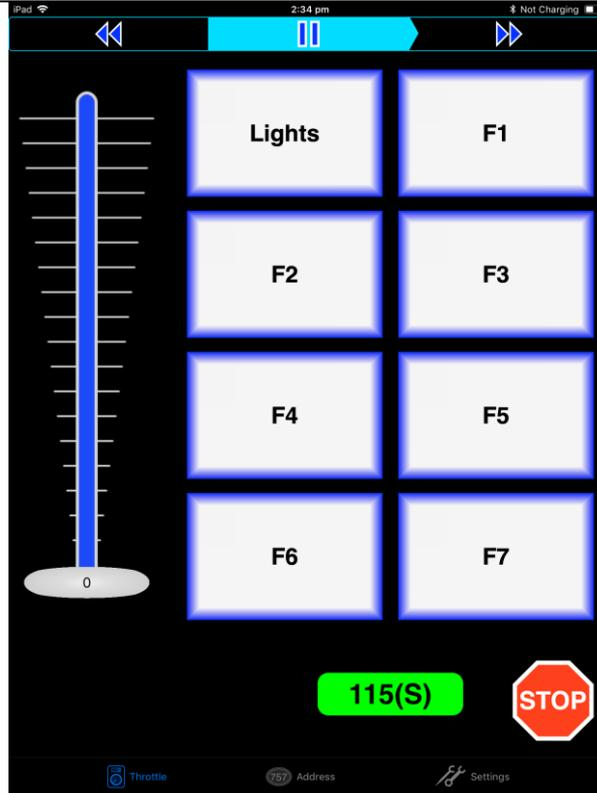

Figure 14 The WiThrottle "Throttle" screen
(12)Tap the Throttle tab at the bottom-left of the screen and you can begin driving as Figure 14. Each time you make a change to the locomotive's state, both the green network LED and the blue Cab Bus LED will flash.